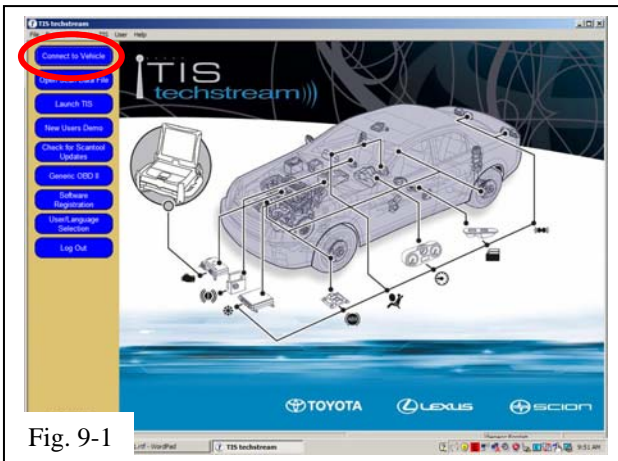

Fig. 9-1
- Click “Connect to Vehicle” button. (Fig. 9-1)